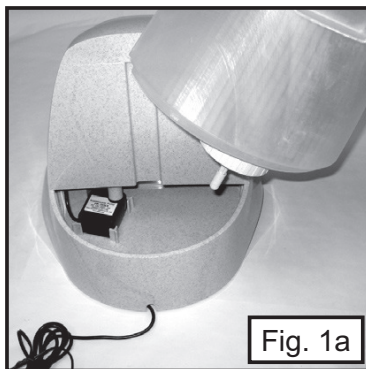

Fig. 1a
- 4) Lift up the reservoir and check to make sure the intake tube is properly inserted into the motor. (Fig. 1a & 1b)